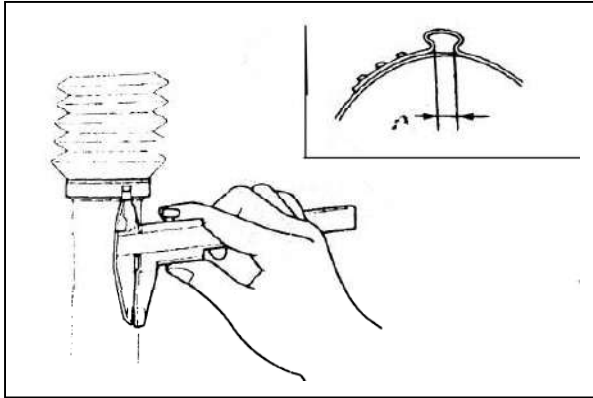

Fig 17-47
$$W = 5.5\text{mm} - A \quad [\text{Example: If (A) is 2.3mm, (W) is 3.2mm.}] \quad (\text{See fig 17-47})$$